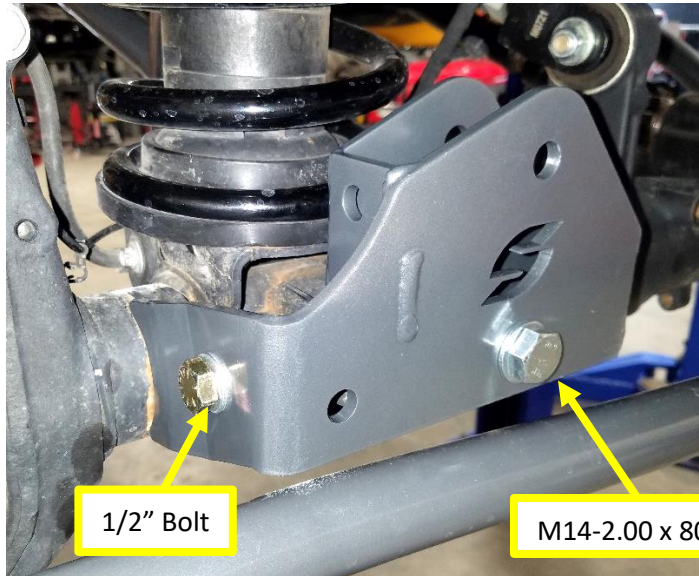

Figure 4. 1/2" Bolt Through Side
5. Install the longer 805503-PL 1.5" spacer in the factory sway bar location and put the 1/2-13 x 3.0" long bolt and washer through the sway bar mounting holes in the side of the bracket. Insert the included 885503-PL nut tab inside the bracket, from the top down, and hand tighten. See **Figure 4 and 5**.